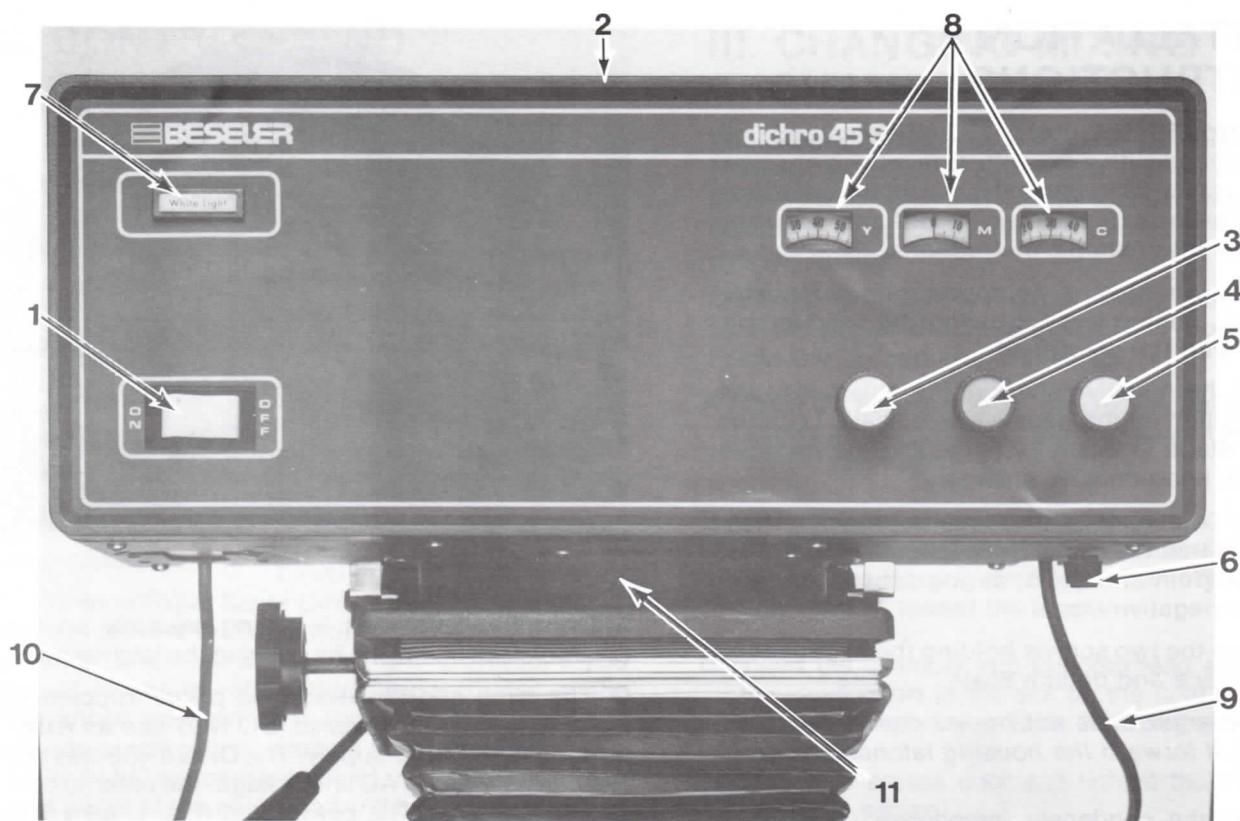
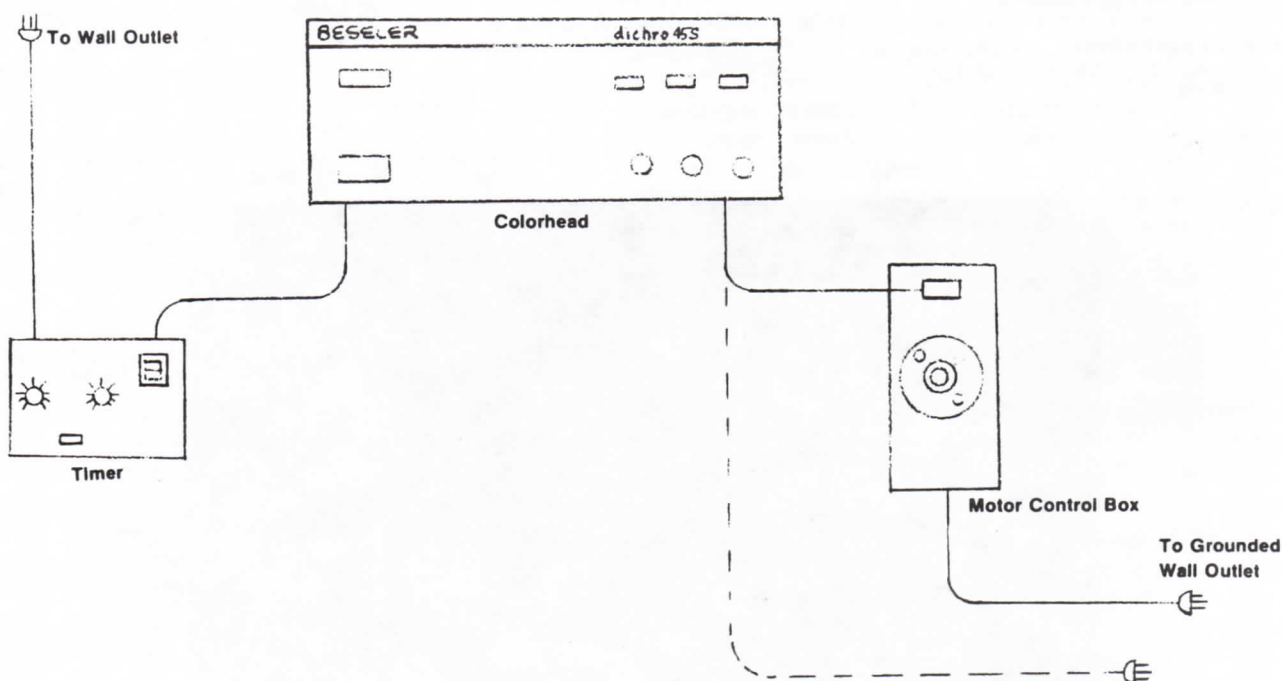

Figure 1
Figure 4
If you desire to begin printing immediately with your Dichro 45S, we suggest that you familiarize yourself with the colorhead and its controls (Figures 1 and 2 with descriptions) and then follow the directions in Section I, Installation Instructions, and Section IV, How to Use the Dichro 45S. The remainder of the manual contains additional valuable information which will increase your understanding of the Dichro 45S.
E. Place the colorhead on the enlarger so that the colorhead mounting collar (Fig. 1, item 11) slides into the opening in the support stage.
G. The lamp and the electronic power supplies in the colorhead are stabilized. DO NOT use an external stabilized power supply. The Dichro 45S has two line cords—one for AC line voltage, the other to connect to the timer. The power cord (Fig. 1, item 9) is on the right and should be plugged into the convenience outlet on the enlarger motor box (on 45MXT) or to a grounded AC outlet. The grey timer cord (Fig. 1, item 10) is on the left underside of the colorhead and is inserted in the "Enlarger" outlet on your timer. See Figure 4 for typical AC connections. You are now ready to begin diffusion printing with your Dichro 45S.